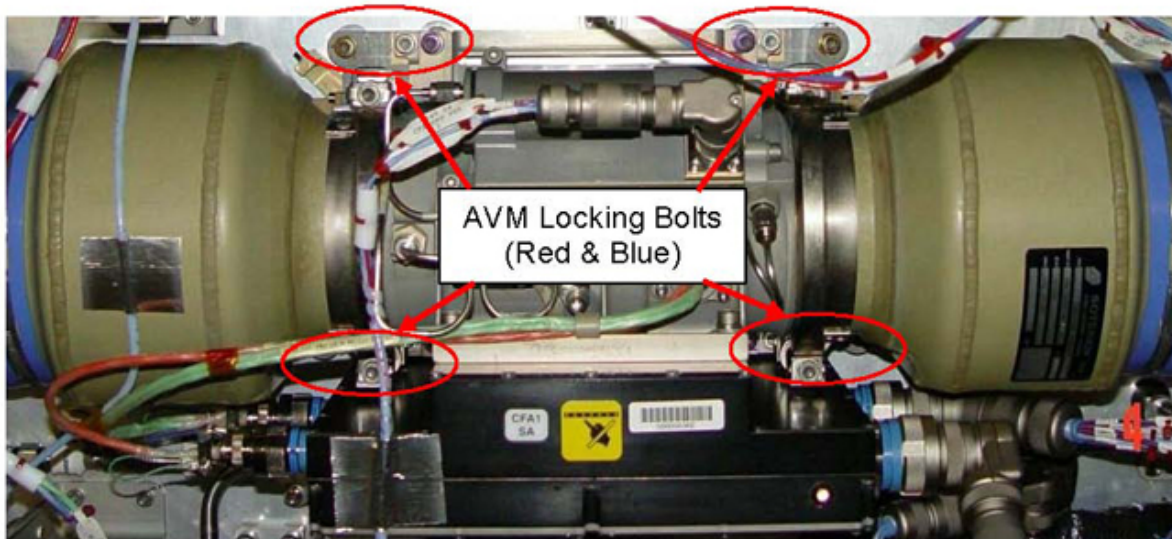

Figure 4. Identification of CFA AVM Locking Bolts, Typical
- 2.1 Completely loosen CFA1 AVM locking bolts (eight, red and blue) (Ratchet Wrench 1/4"; 10" Extension, 1/4" Drive; M6 (5mm) Hex Head Driver 1/4" Drive). Refer to Figures 4, 5 and 6.